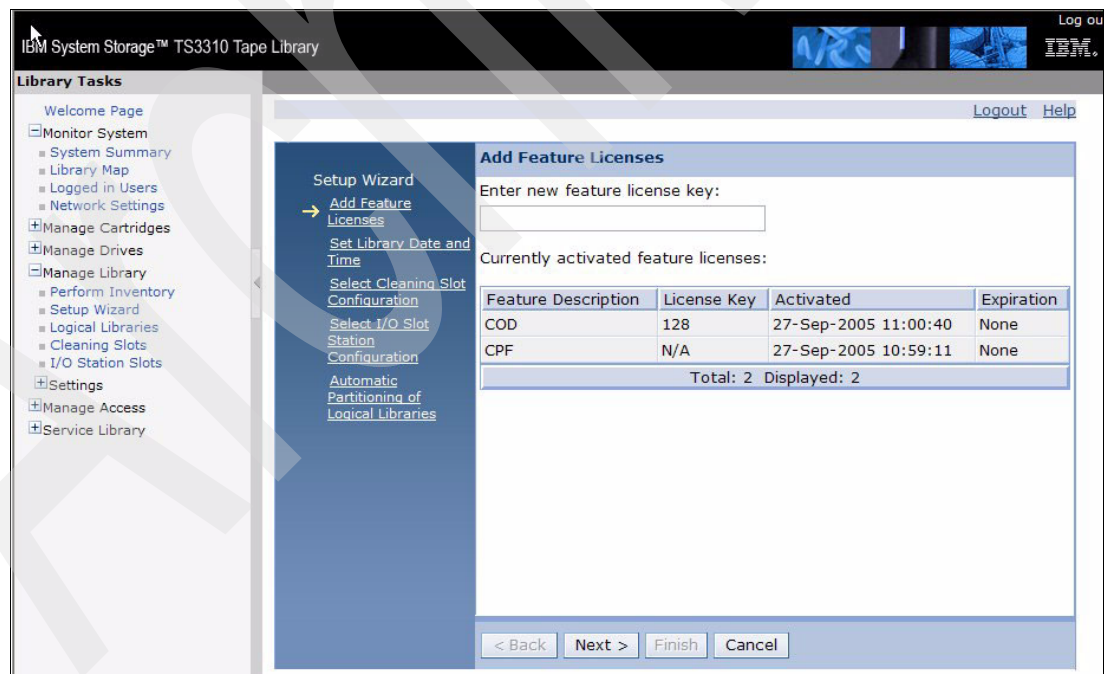

Figure 2-15 IBM TS3310 Setup Wizard
- With a new library, you can use the configuration wizard to automate some of the initial setup definitions. Select **Manage Library** → **Setup Wizard**; see Figure 2-15.